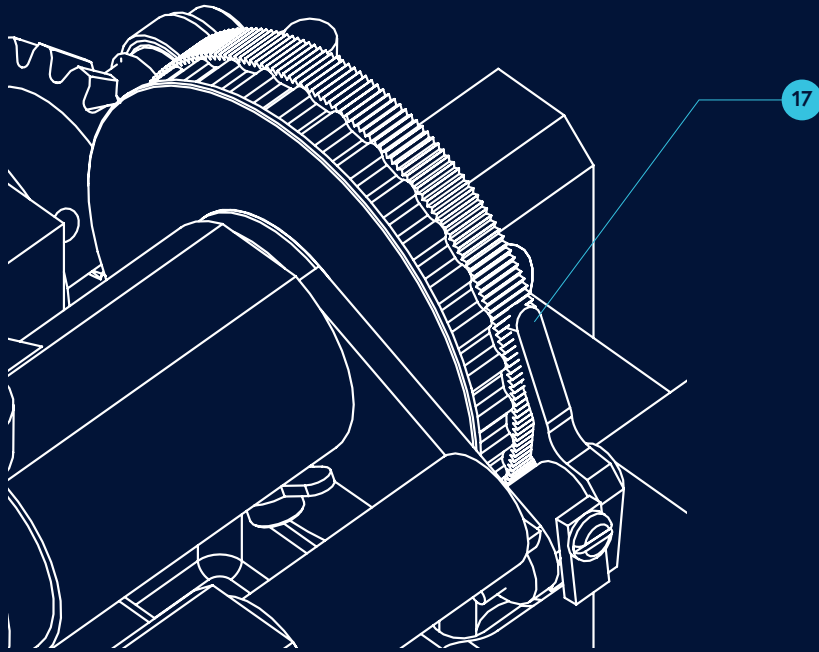

Figure 11. Trimming
(Refer to Fig.11)
- 200 Rotary Main Shaft (Refer to Fig.11)
- 203 Coupling Joint (Refer to Fig.11)
- 208 Main Shaft Coupler (Refer to Fig.11)